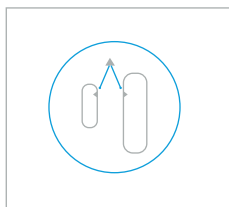

Fig 1
2. Choose your location. Ensure the sensor and magnetic contact are positioned in the correct direction with the arrow indicators facing each other (Fig 1). It is recommended to place the sensor on the fixed surface and the smaller magnetic contact on the moving surface.